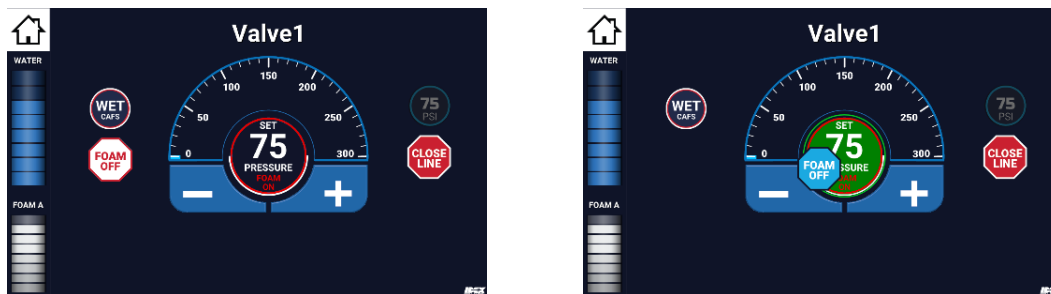

Figure 25. Turning The CAFS System Off
- D. On Valve X screen (discharge valve control screen), swipe FOAM OFF bubble to target (center of gauge). (See Figure 25.)